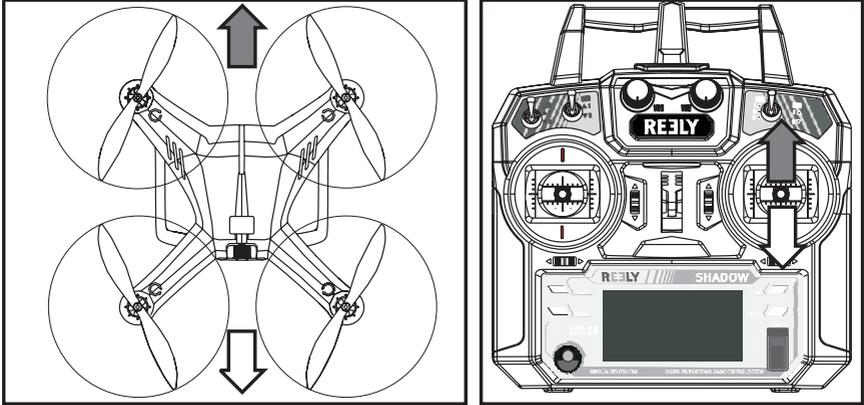

Figure 21
The nod function allows you to move your quadcopter forward and backward (see figure 21). This is also controlled with the right control stick (also see figure 7, item 6).